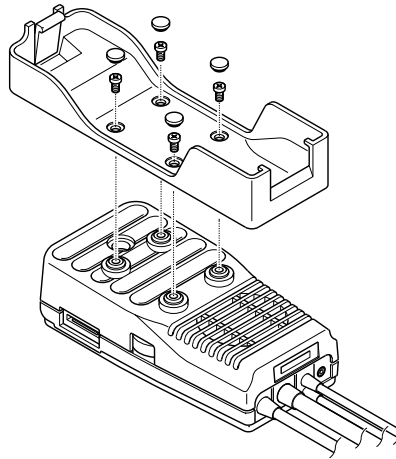

Figure 24: holder removal
5. Figure 24 Reinstall the holder onto the handset unit. Use 4 screws.